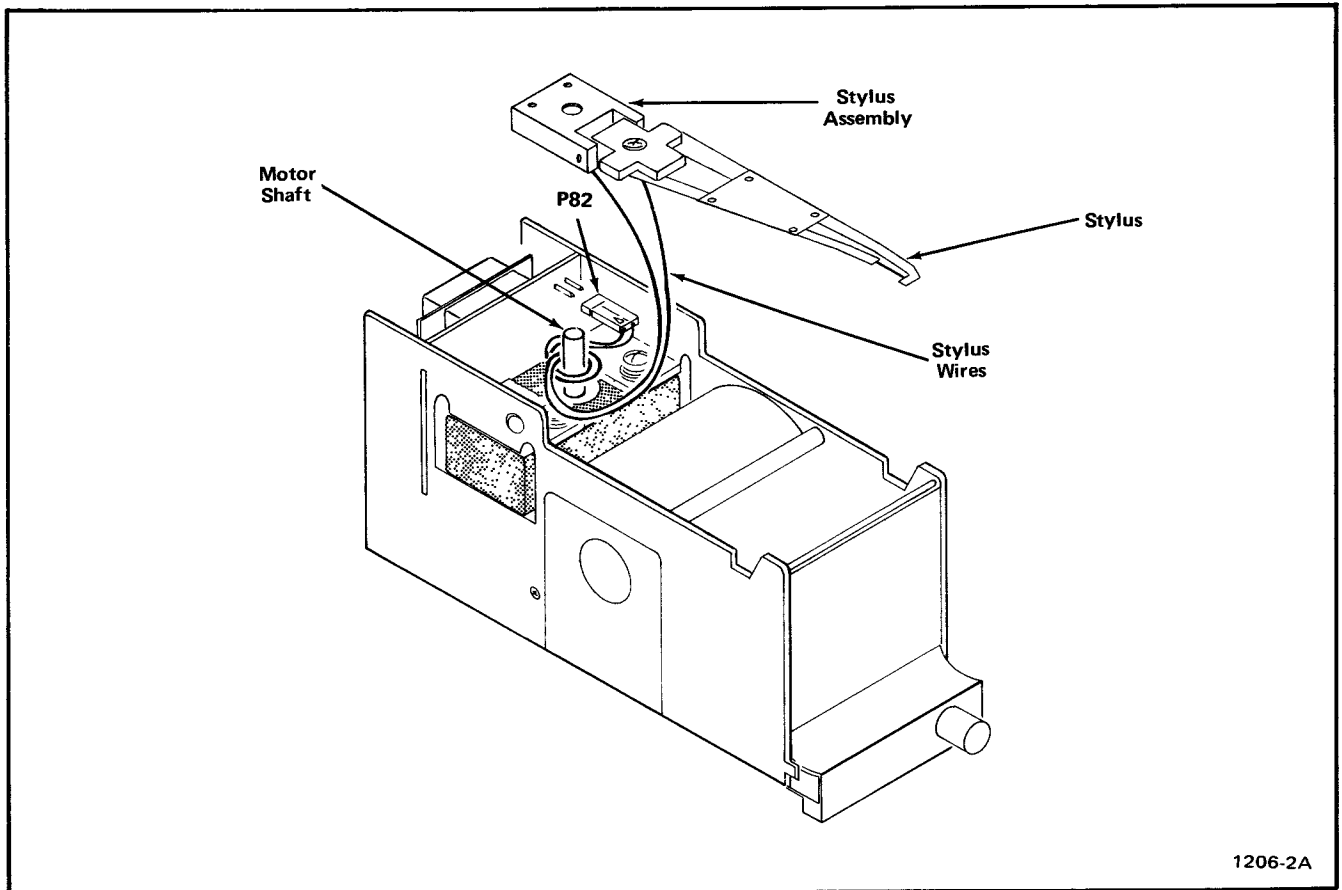

Fig. 5-2. Correct alignment of stylus assembly connecting wire.
8. Loop the stylus wires around the motor shaft as shown in Fig. 5-2. Connect P82 and P81.